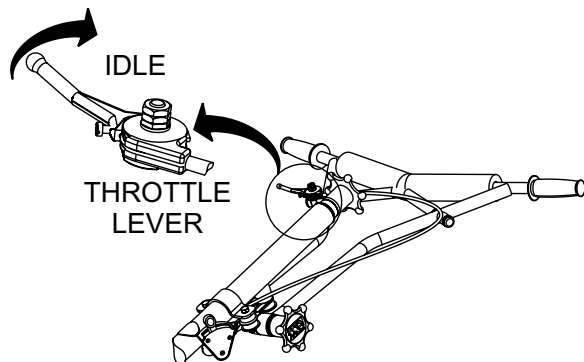

Figure 21. Throttle (Idle Position)
2. Pull the **throttle lever** (Figure 21) backwards and place in the "idle" position.